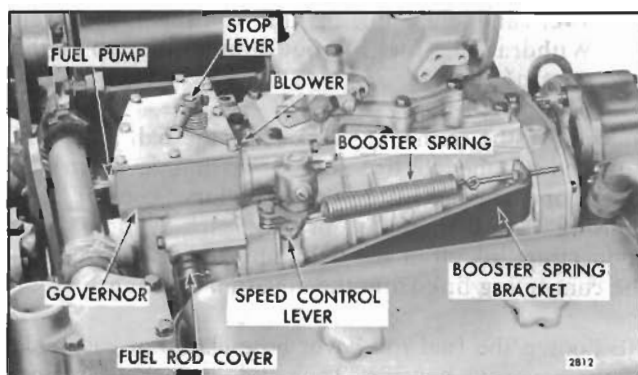

Fig. 2 - Variable Speed Governor Mounting (6 and 8V Engines)
3. Disconnect the control linkage from the speed control and stop levers (Fig. 2).